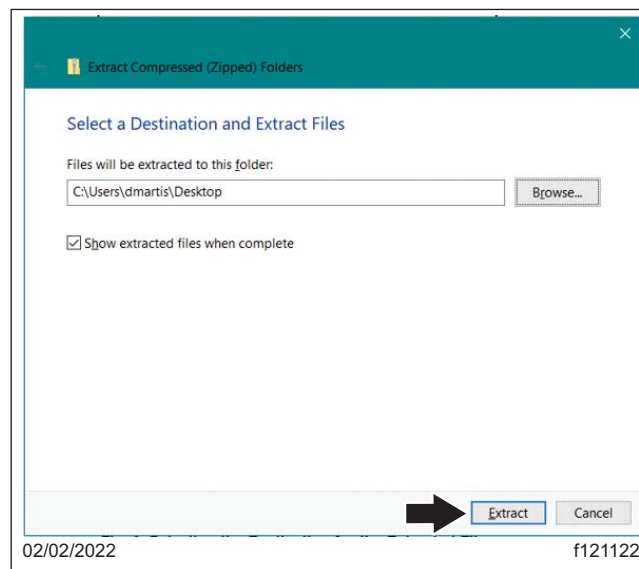
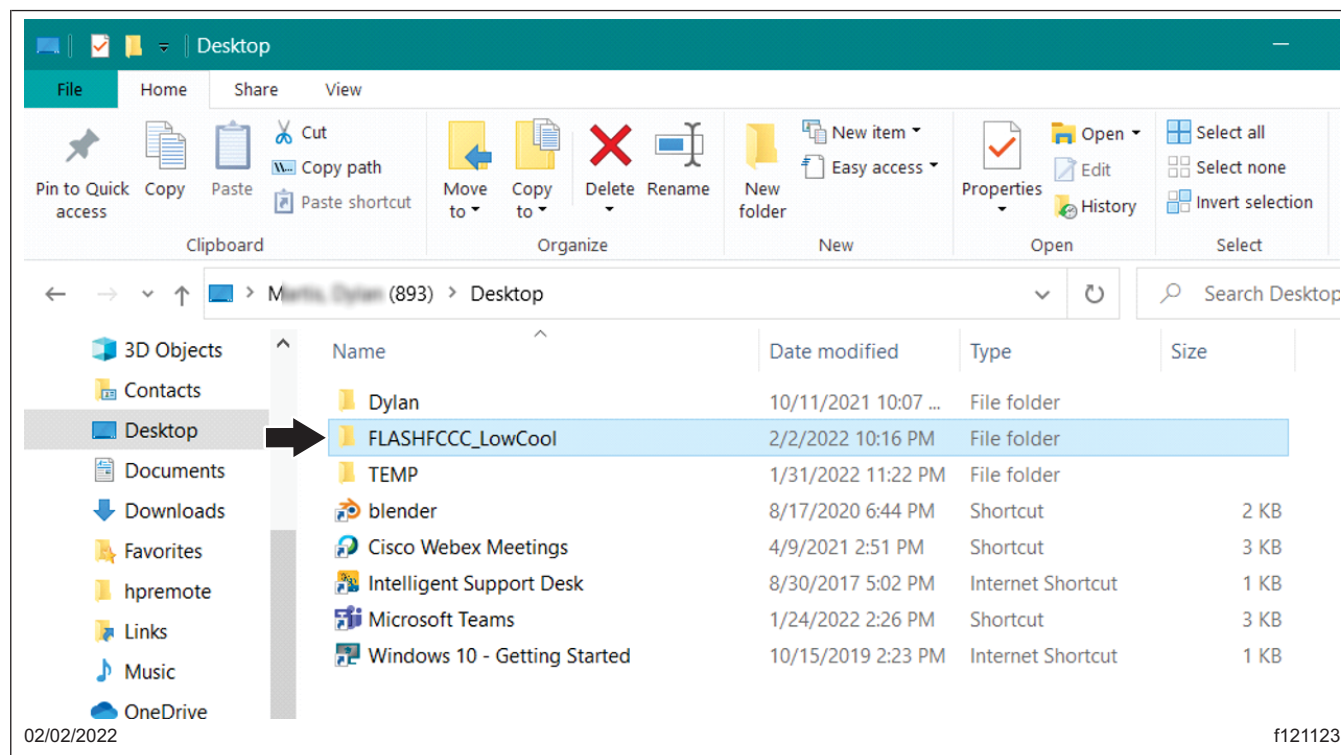

Fig. 6, Extract the Compressed Folders Window
Fig. 7, Extracted Folder
7. In the next screen, select the destination you want the files to be extracted to, then select 'Extract.' See Fig. 6 and Fig. 7.